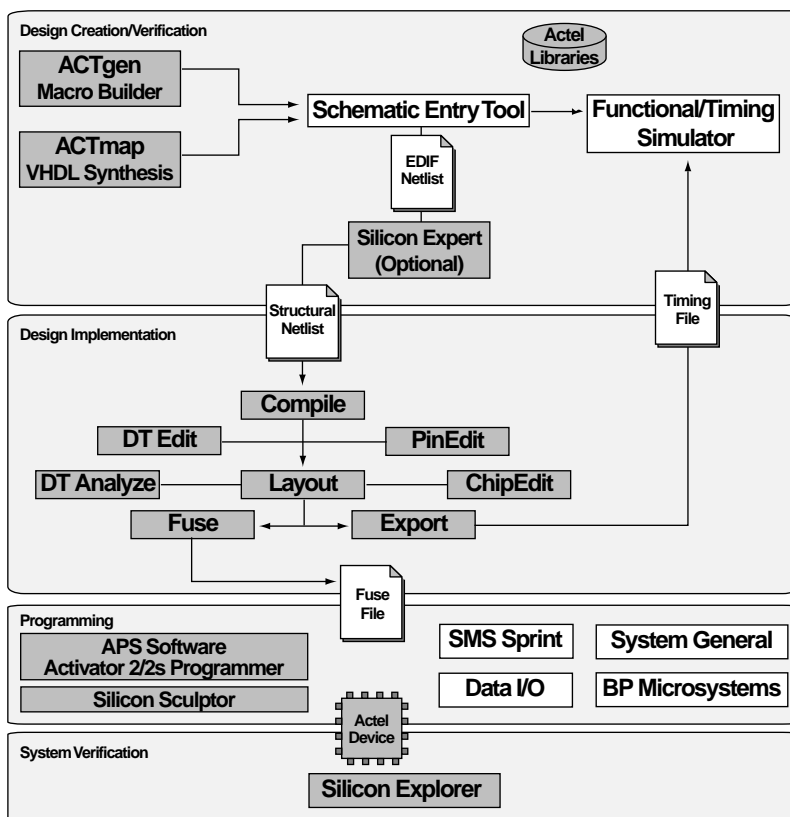

Figure 2-1. Actel Schematic-Based Design Flow
Figure 2-1 shows the schematic-based design flow for an Actel device using Designer Series and third-party schematic capture software.1
1. Actel-specific utilities/tools are denoted by the grey boxes in Figure 2-1.